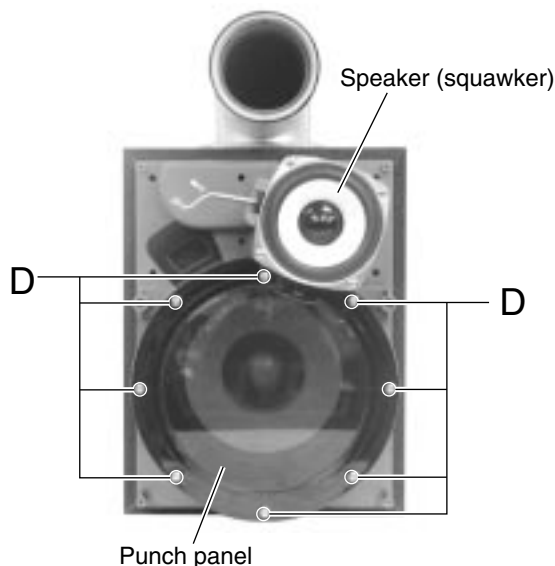

Fig.6
■ Removing the speaker (woofer) (See Fig.6 and 7)